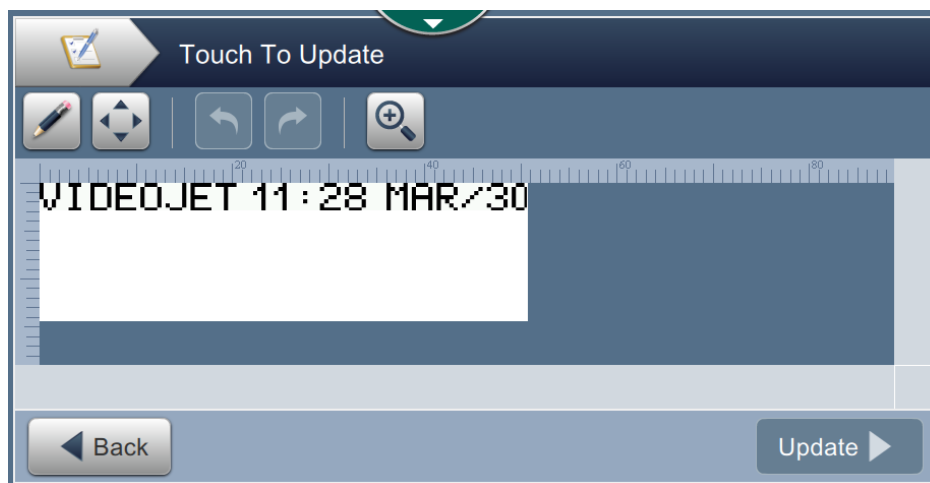

Figure 5-15: Job Editor
3. To edit a user prompted field, touch the field and then touch the  button as shown in Figure 5-15.
5. To move the field location, touch the field and then touch the  button as shown in Figure 5-15.